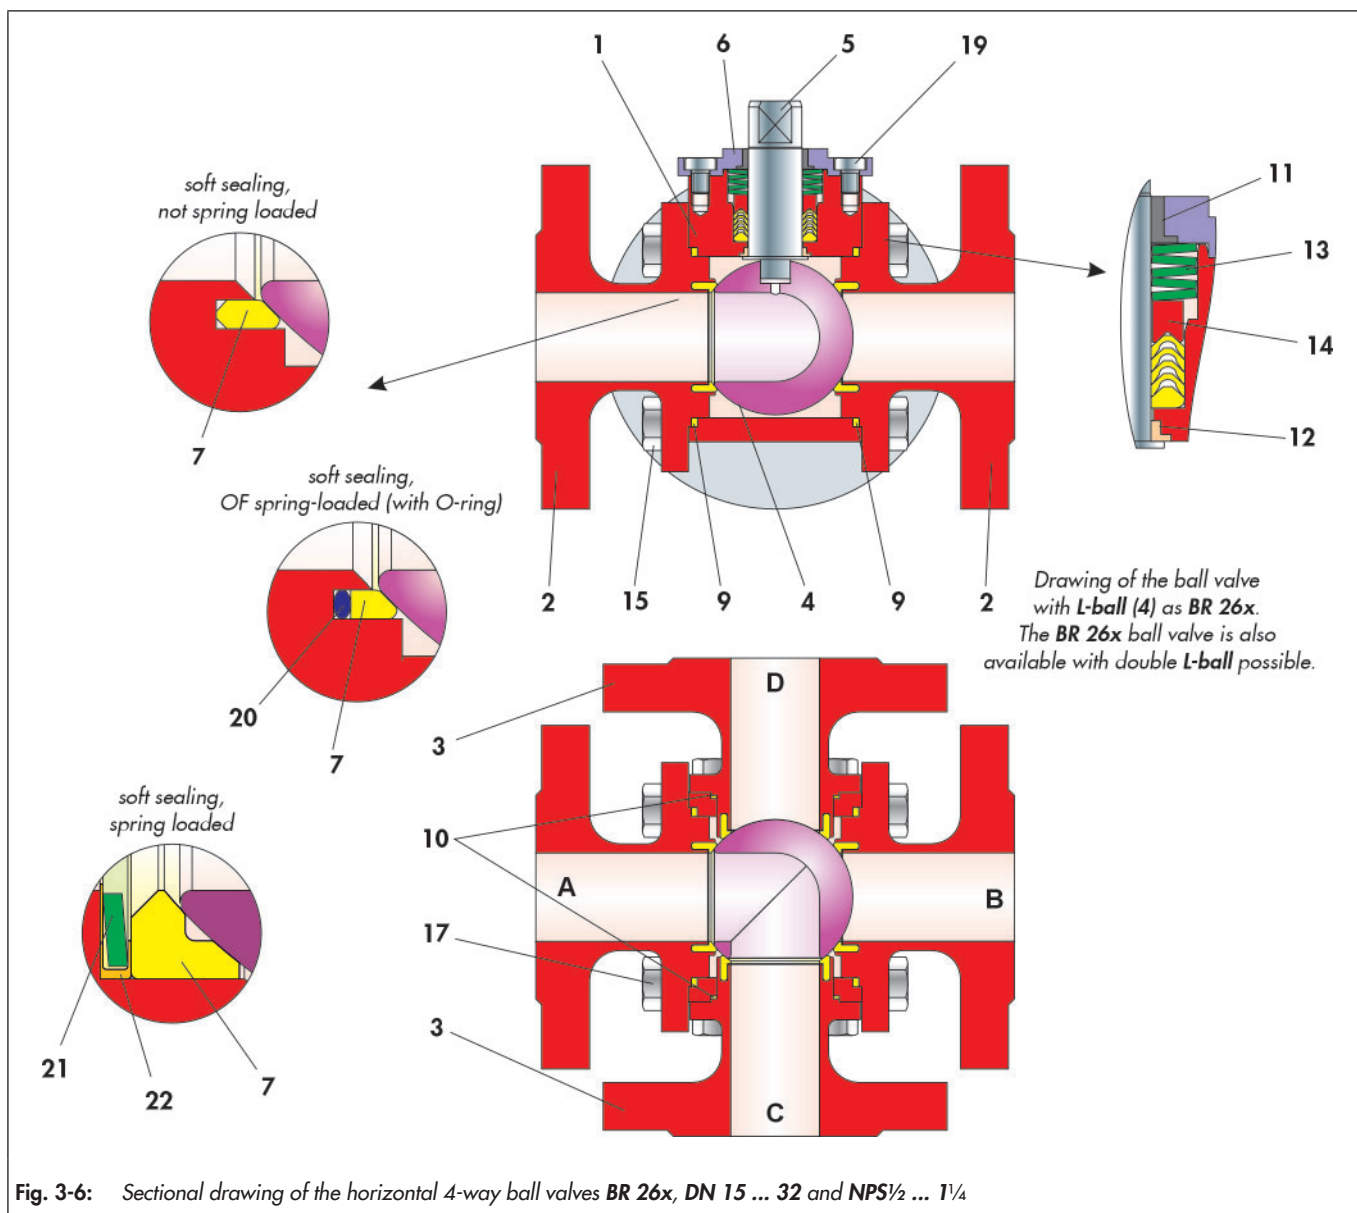

Fig. 3-6: Sectional drawing of the horizontal 4-way ball valves BR 26x, DN 15 ... 32 and NPS½ ... 1¼
*– Depending on the version, stud bolts (15) with nuts (16) or screws (15) can be used.
- ⇒ Press the bearing bush (12) at the appropriate location into the main body (1).
- ⇒ Push the control shaft (5) through the mounted bearing bush (12) into the main body. Make sure the control shaft can be moved.
- ⇒ Slightly rotate the V-ring packing (14) so it can be pushed over the mounted control shaft (5) more easily and insert it at the appropriate packing location into the main body (1). For the arrangement of the V-rings, see Fig. 3-6
- ⇒ Place the disc springs (13) onto the packing. For the arrangement of the disc springs, see Fig. 3-6.
- ⇒ Press the bearing bush (11) into the packing box flange (6).
- ⇒ Place the packing box flange (6) over the control shaft (5) onto the main body (1).
- ⇒ Lightly grease the screws (19).
- ⇒ Adjust the stuffing box flange with the screws (19).